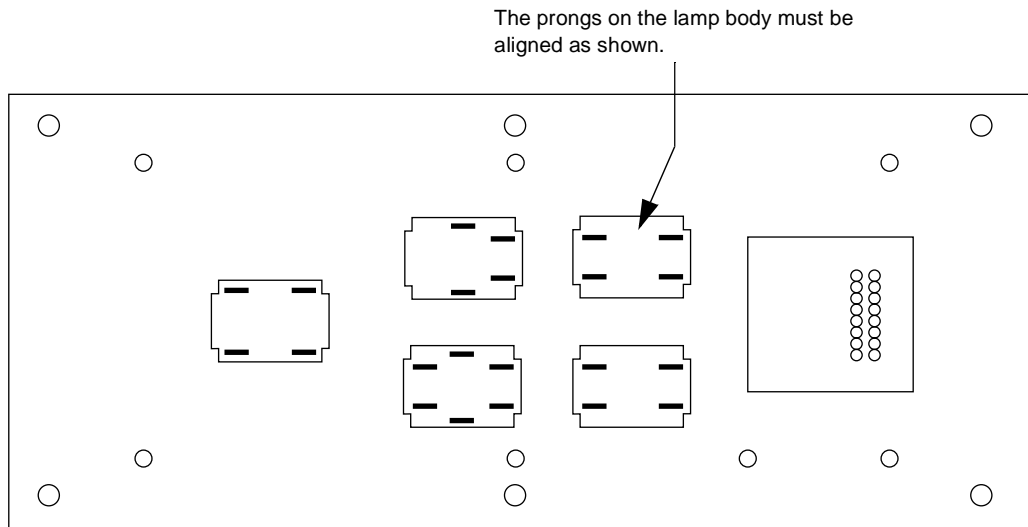

Figure 9-4. Lamp Body Contact Alignment
8. Replace the lamp body by pushing it straight into the lamp housing receptacle. Make sure the contacts on the lamp body are properly oriented (see Figure 9-4).